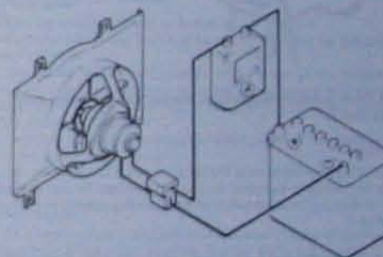

Fig. 3.7 Testing the cooling fan motor (Sec 4)
- 6 Connect the positive lead of the ammeter to the battery positive terminal and the meter negative lead to the horizontal terminal of the cooling fan wiring connector (Fig. 3.7).